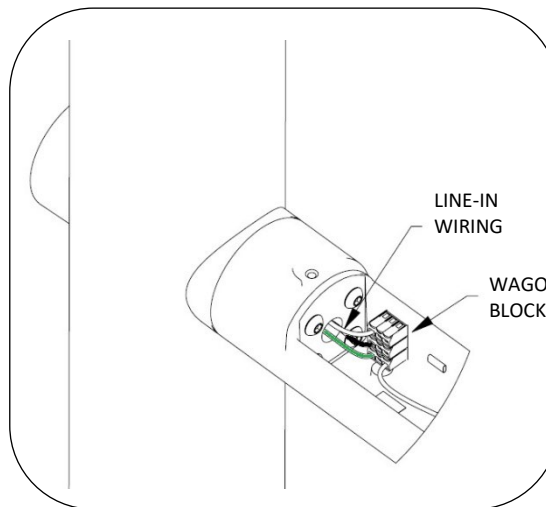
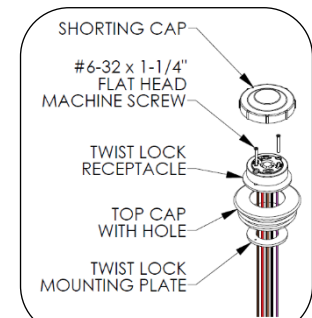

Fig. 7 – CONNECT LINE-IN WIRING
FIG. 13 – INSTALL OPTIONAL TWIST LOCK RECEPTACLE
3. Run wiring from motion sensor through the sensor mount bracket and out through the luminaire wiring access hole, see Fig. 7.
2. Connect line-in voltage wiring to the twist-lock receptacle, see Fig. 13. Run line-in voltage wiring and dimming wires to luminaire wiring access hole, see Fig. 7. Refer to wiring diagram for units with twist-lock.
4. Run line-in voltage wiring, and dimming wires if applicable, through access hole and connect to wago block, see Fig. 7.